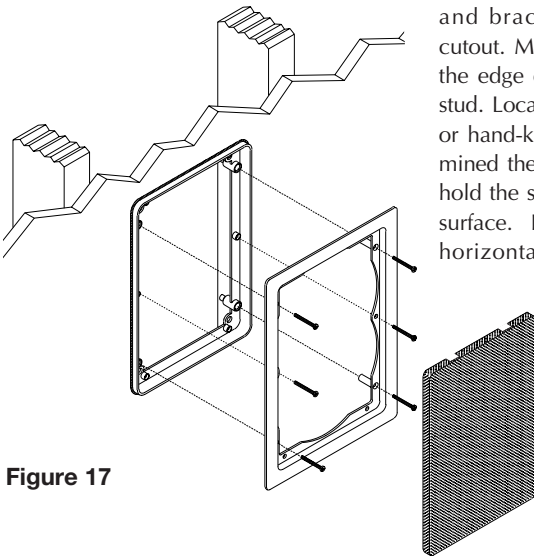

Figure 17
7. Attach the frame to the bracket by screwing the frame to the bracket using the supplied screws. Do not overtighten the screws, this will distort the frame and the grilles will not fit (this is not permanent, just loosen the screws and the grille will pop in). The screws should pull the frame and bracket together (sandwiching the drywall) so that the frame is absolutely flush with the wall surface. There should be no gaps between the wall and the frame **(See Figure 17)**.